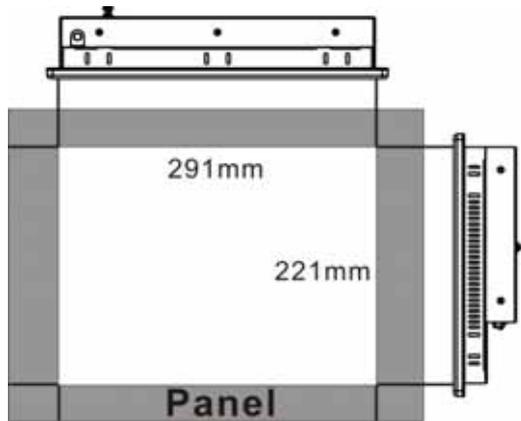
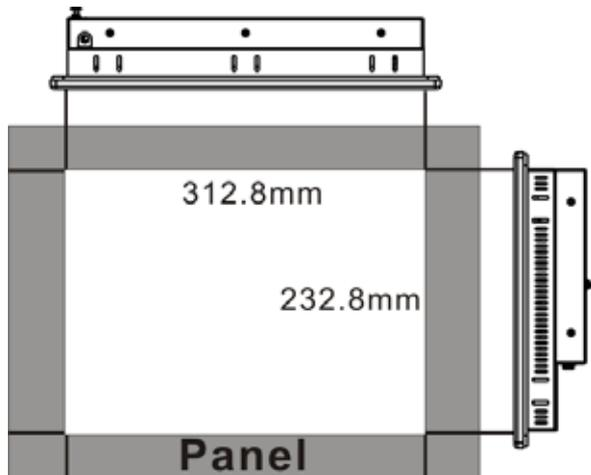

Figure 3-14: EX-93821 Panel Opening
Figure 3-15: EX-93823 Panel Opening
- Step 2:** Cut out a section from the panel that corresponds to the rear panel dimensions of the flat panel PC. Take care that the panel section that is cut out is smaller than the overall size of the metal frame that surrounds the flat panel PC but just large enough for the rear panel of the flat panel PC to fit through (**Figure 3-14** and **Figure 3-15**).